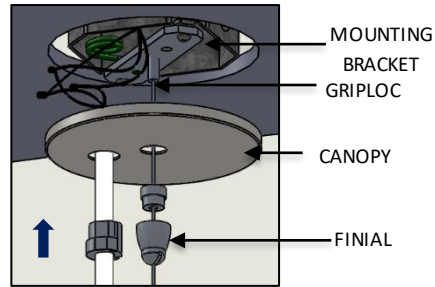

FIG. 19 - FINIAL INSTALLATION
14. Raise CANOPY and secure to ceiling by threading the FINIAL to the GRIPLOCK until fully seated as shown in FIG. 19.